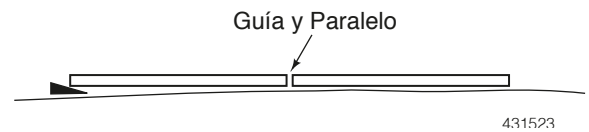

Figure 4
1. Begin by laying the sections of the door face down on a clean and level surface. Block as needed so the door sections are aligned. See *Figure 4*.